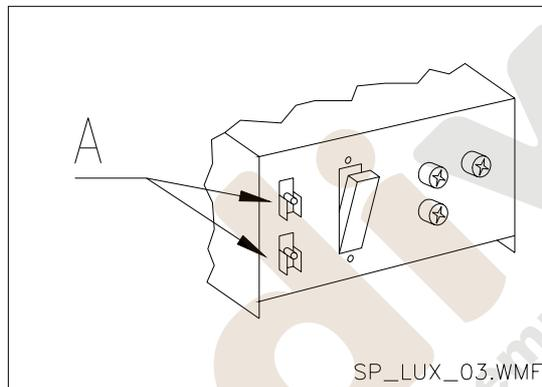

FIG. 3
7.1 MICROINTERRUPTOR DE LA PUERTA (FIG. 3)